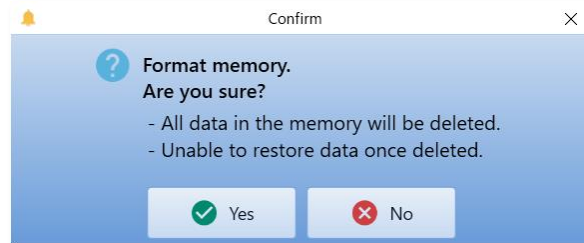

Figure 6.27 Confirmation message
- (1) Click on [Memory format] button and display confirmation message. (Figure 6.27)